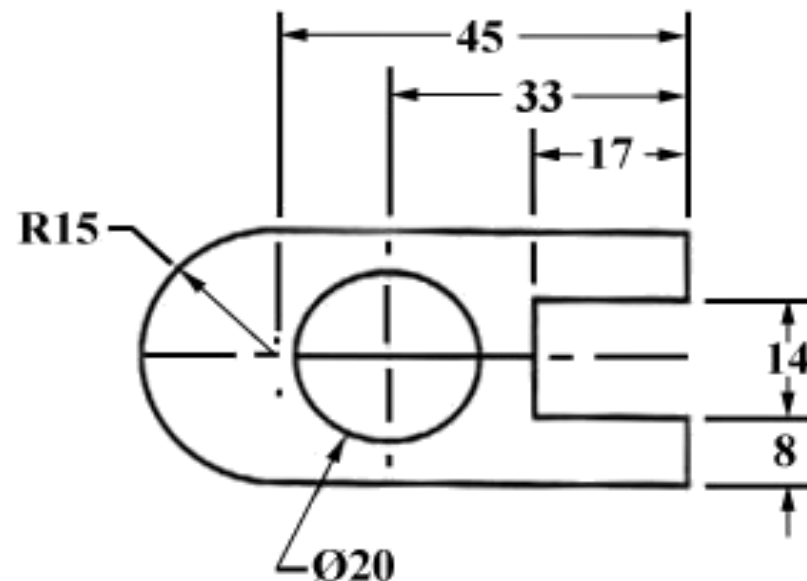

Figure 31 - Example of a directly dimensioned hole
- This drawing is symmetric about the horizontal centerline. Centerlines (chain-dotted) are used for symmetric objects, and also for the center of circles and holes. We can dimension directly to the centerline, as in figure 31. In some cases this method can be clearer than just dimensioning between surfaces.